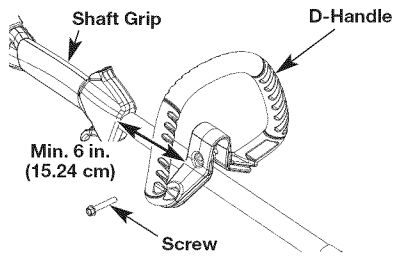

Fig. 2
1. Loosen the screws on the D-handle (Fig. 2).